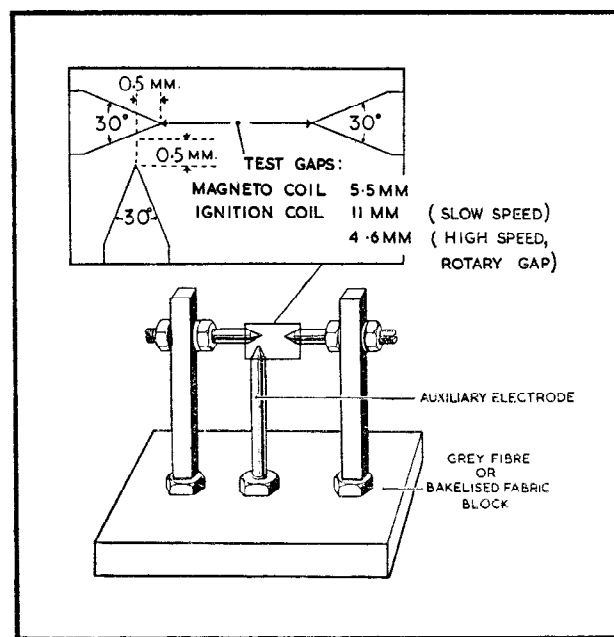

Fig. 4.
- (ii) Spark gap for slow speed test: 11 m.m. (point dimensions as in Fig. 4).
- 3-point spark gap, as in Fig. 4.